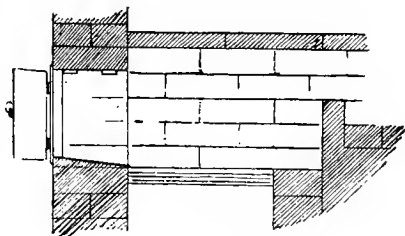

FIG. 141.
**Flues.**—The ordinary smoke-flue, which formed the chief dependence for heating glass structures of all kinds previous to the introduction of heating by hot water, consists of a furnace constructed as shown in Fig. 141, built into the wall of